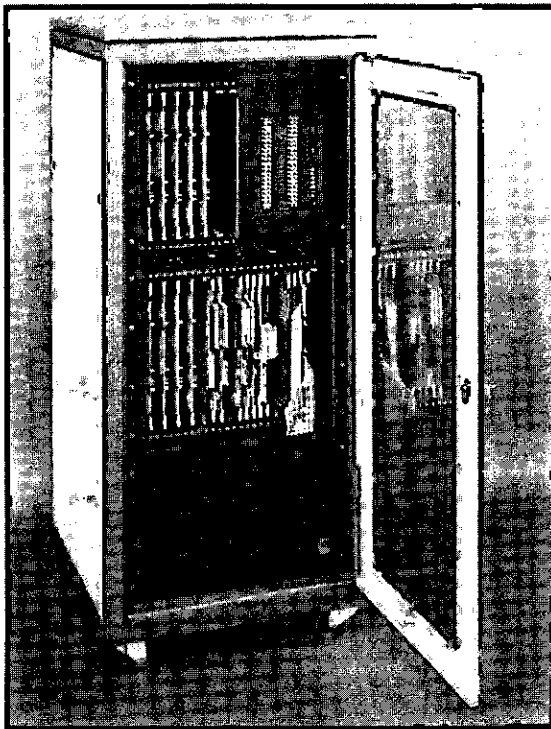
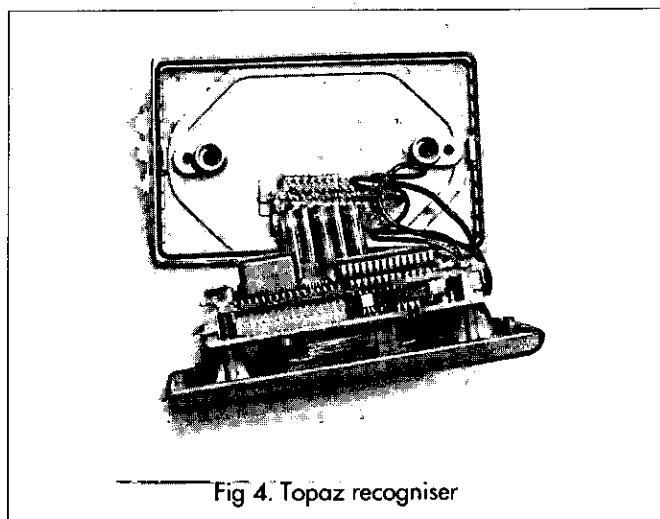

Fig. 2. Talon
Fig 4. Topaz recogniser
A pulsating gas bubble in a liquid is a lightly-damped oscillator, the stiffness being invested in the gas and the inertia in the surrounding liquid [1]. As such, if an air bubble (roughly resembling a sphere of radius R_0) is injected into water at around atmospheric pressure, a nearby hydrophone will detect an acoustic pressure fluctuation resembling an exponentially decaying sinusoid at the natural frequency $\nu_0 \approx 3.3/R_0$ (using SI units). The detected frequency gives the bubble size (Figure 1a). A few milliseconds later, these passive emissions have effectively ceased, and as the bubble rises under buoyancy it must be detected by an active technique. The bubble can be sized from its resonance, found for example through the scattering of a 'pump' signal, which may be broadband, a chirp, or a sequence of tones at a pump frequency of $\omega_p/2\pi$ Hz. The closer the pump signal comes to exciting a bubble at its resonance, the greater the pulsation amplitude and the more strongly it backscatters the insonifying signal. However, strong scattering at a particular frequency might also be obtained from a bubble which is much larger than resonance size, which though it does not pulsate significantly, presents to the incident field a large target [7]. Although this represents an ambiguity when using the signal as an indicator of resonant bubbles, such geometrical scattering can be exploited by insonifying the bubble with an ultrasonic beam whose frequency is much higher than the bubble resonance. This is demonstrated in Figure 1b, and typical results taken using a 3.5 MHz clinical diagnostic scanner are presented in Figure 2.
Fig. 1. Schematic of the apparatus required to implement the various acoustic detection techniques, a simultaneous deployment of which has been realised [8]. In (a) the bubble is shown, injected from a nozzle, where a hydrophone detects its short duration passive emissions. In contrast, all the active techniques are schematically shown interrogating a bubble which has risen under buoyancy. In (b) a medical diagnostic ultrasound scanner is deployed to produce an image of the bubble (shown in Figure 2). In (c) the underwater loudspeaker generates a series of tonal pump signals, and a second hydrophone detects structure in the spectrum corresponding to $2\omega_p, 3\omega_p, \omega_p/2, 3\omega_p/2$ and $5\omega_p/2$ in the presence of a resonant bubble. In (d) a high frequency imaging signal is projected onto the bubble, and the scattered signal is detected by a high frequency receiver. Whilst in the absence of the bubble, ideally only ω_p and ω_i can be present, a resonant bubble will produce structure in the spectrum around ω_i . The various peaks have been colour coded to facilitate their identification in later results (Figs. 4, 5 and 10)
Fig. 2. This output shows both the a) M- and b) B-mode images obtained using a medical ultrasound scanner, the section shown being a slice at 45° to vertical [8]. Bubbles, rising under buoyancy, pass through the beam section. The bubble (labelled B) can be located in Fig. 2b (near-field is at top of image), which also images the underwater loudspeaker (S). Images which intersect the vertical line (L) in 1 s are plotted in Fig. 2a: almost 19 bubbles pass through the beam in that time, with rise speed (from the image, assuming local rectilinear bubble motion in the 45° beam orientation) of 20 ± 2 cm/s, covering an implied 0.87 – 1.13 mm radii range [8]
In 1985 a basic cellular telephone typically cost around £2000 – without extras. With this base cost, our recogniser would not increase the cost significantly – especially as many of the components (particularly the high cost display) were already part of the instrument. ASCOT was re-engineered into BT's 'flagship' cellular telephone – TOPAZ – the world's first hands-free speech controlled cellular telephone [3]. It provided speaker dependent recognition of up to 100 words and the speech recogniser, speech feedback module, dialogue controller and interface to the cellular telephone were integrated into a single module using surface mount technology. The production version of the speech recogniser used in Topaz was contained on two small circuit boards – see Figure 4.